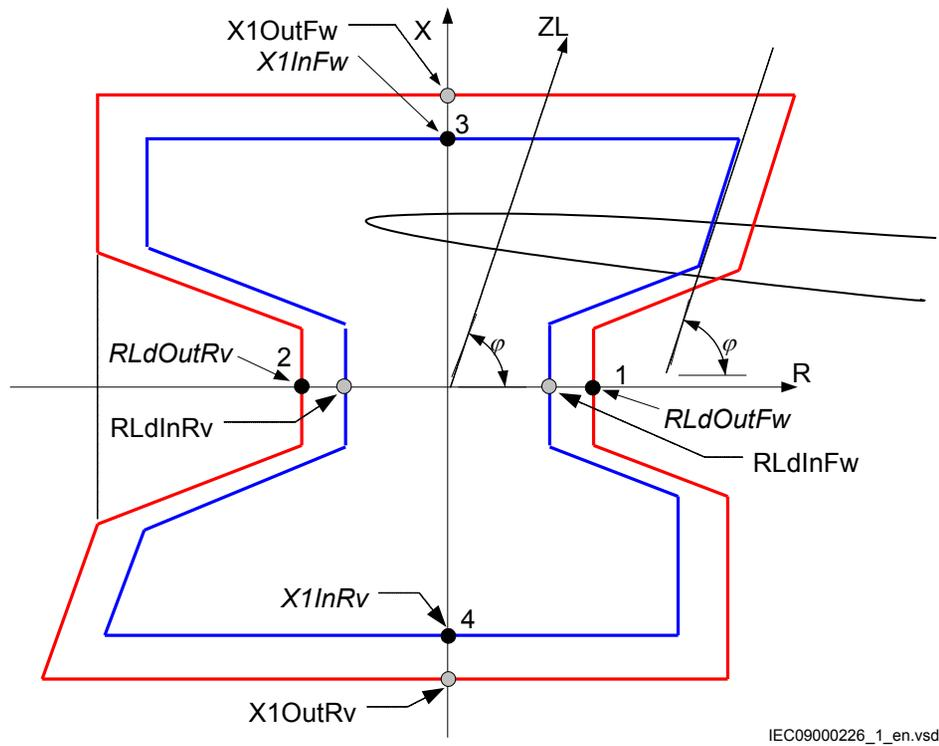

Figure 67: *Operating principle and characteristic of the power swing detection function (settings parameters in italic)*
3. Make the necessary connections and settings of the test equipment for test of point 1 according to figure 67.
6. Do the necessary change of the setting of the test equipment and repeat step 4 and step 5 for point 2, 3 and 4 according to figure 67.